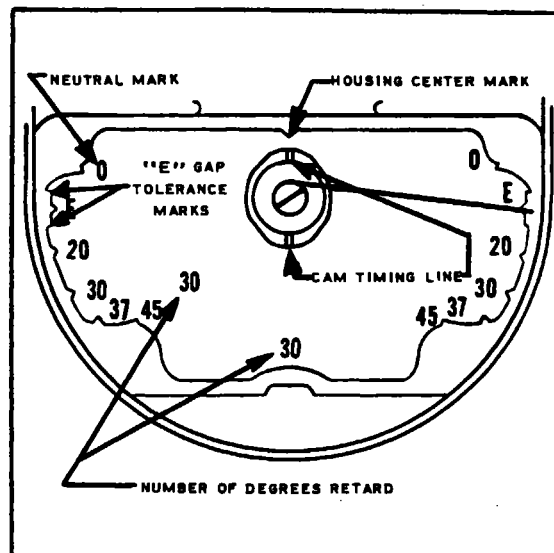

Figure 8-18. Breaker Compartment With Cast Timing Marks
1. On each side of the breaker compartment there are timing marks indicating "E" gap and various degrees of retard breaker timing. The marks on the left hand side, viewed from the breaker compartment, are for clockwise rotation. The marks on the right hand side are for counterclockwise rotation. The timing marks indicate "O" position, "E" gap and various degrees of magneto retard. The point in the center of the "E" gap boss indicates the exact "E" gap position. The width of the boss on either side of the point is the allowable tolerance of $+ 4$ degrees. (Refer to Figure 8-18.) In addition to these marks, some cams have an indented line across their end for locating "E" gap position of the rotating magnet when aligned with the mark at the top of the breaker housing.
6. On retard breaker magnetos, the retard breaker is set to open a predetermined number of degrees after the main breaker opens within $+2 -0$ degrees. The degree of retard for any particular magneto is stamped in the lower portion of left hand side of the breaker compartment. (Refer to Figure 8-18.) Move the